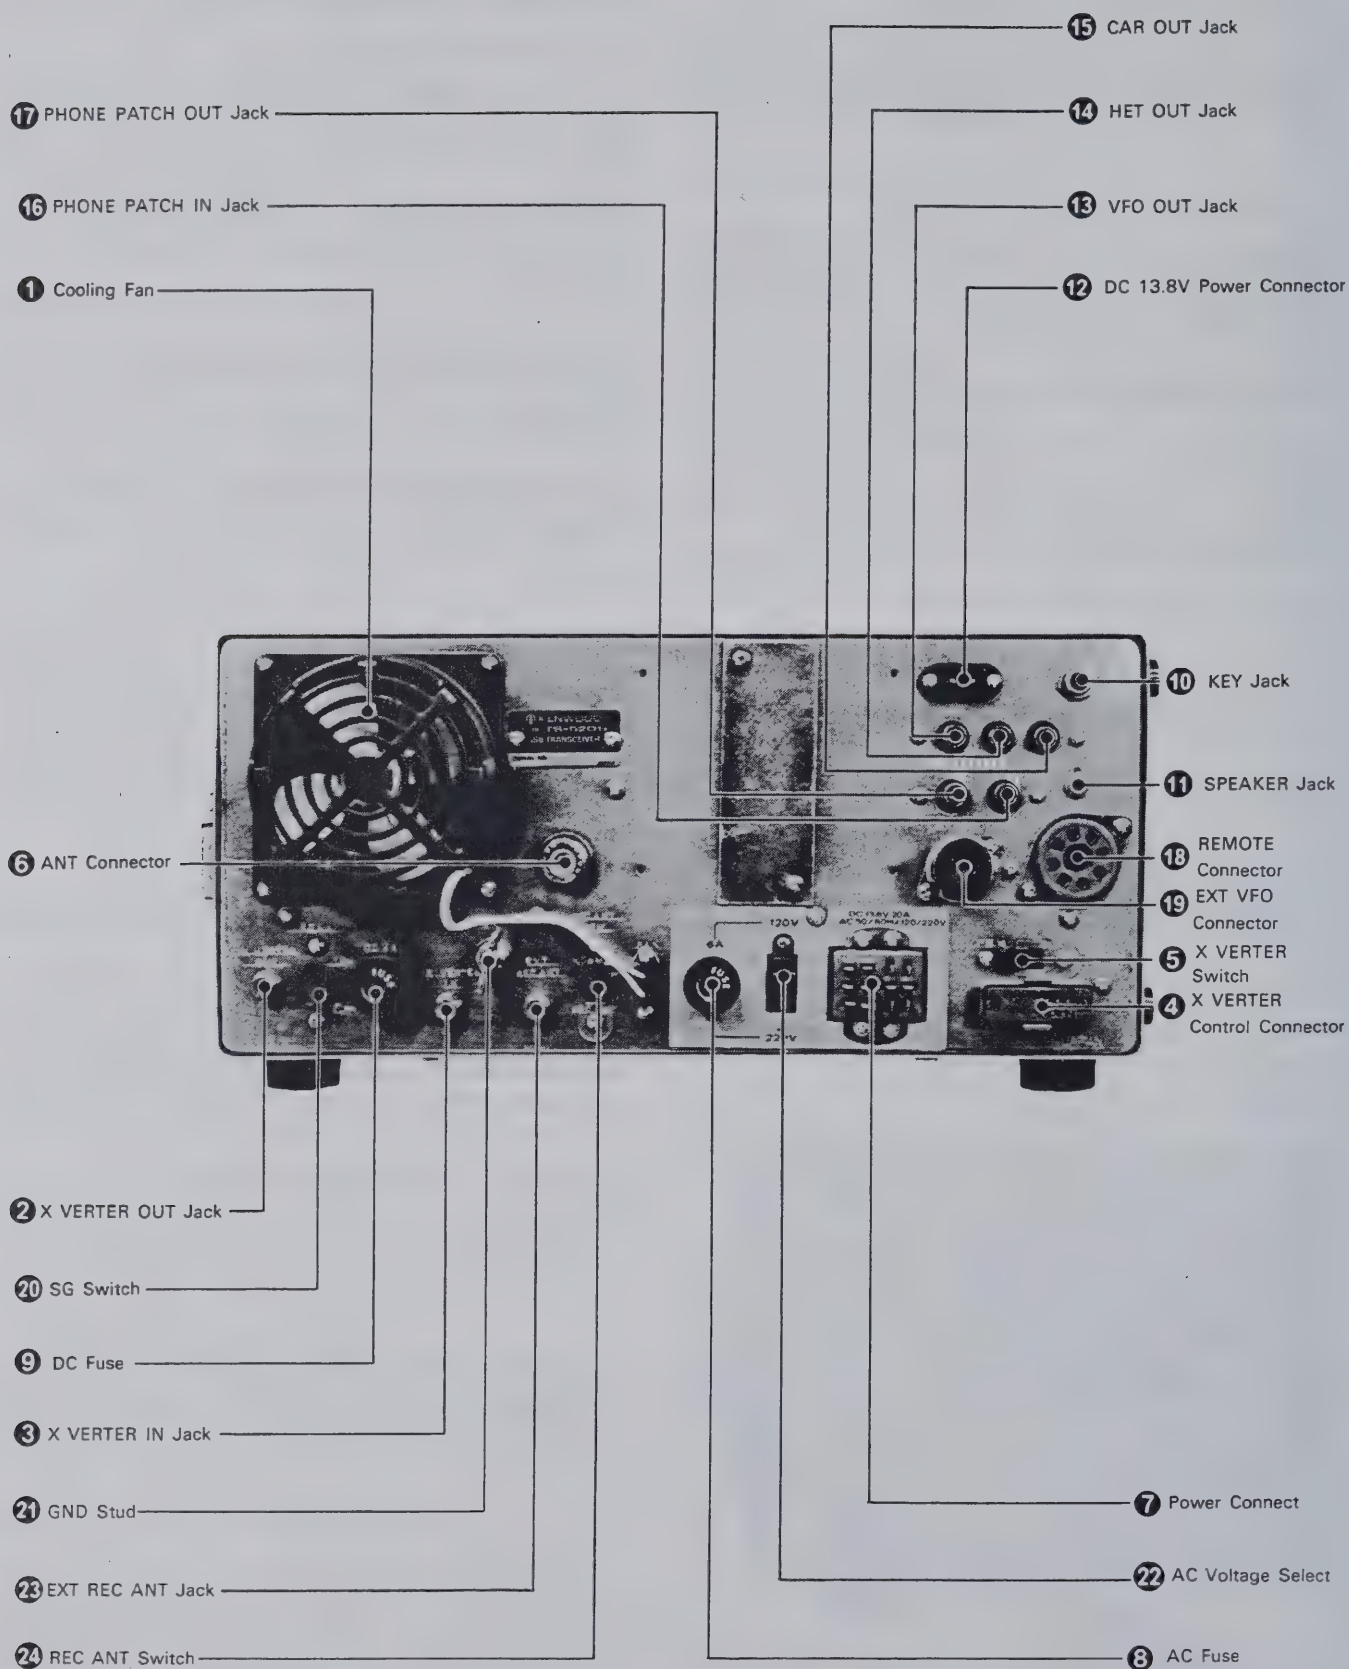

Fig. 7 Rear Panel Controls
3.3 REAR PANEL CONTROLS (See Figure 7)
■ COOLING FAN (① on Figure 7)
■ TRANSVERTER OUT JACK (② on Figure 7)
■ TRANSVERTER IN JACK (③ on Figure 7)
■ TRANSVERTER CONNECTOR (④ on Figure 7)
■ X VERTER SWITCH (⑤ on Figure 7)
■ ANTENNA CONNECTOR (⑥ on Figure 7)
■ POWER SUPPLY CONNECTOR (⑦ on Figure 7)
■ AC FUSE (⑧ on Figure 7)
■ DC FUSE (⑨ on Figure 7)
■ KEY JACK (⑩ on Figure 7)
■ SPEAKER JACK (⑪ on Figure 7)
■ 13.8V DC CONNECTOR (⑫ on Figure 7)
■ VFO OUT JACK (⑬ on Figure 7)
HET OUT JACK (⑭ on Figure 7)
CAR OUT JACK (⑮ on Figure 7)
■ PHONE PATCH IN JACK (⑯ on Figure 7)
■ PHONE PATCH OUT JACK (⑰ on Figure 7)
■ REMOTE CONNECTOR (⑱ on Figure 7)
■ EXTERNAL VFO CONNECTOR (19 on Figure 7)
■ SG SWITCH (20 on Figure 7)
■ GND (Ground) LUG (21 on Figure 7)
■ AC VOLTAGE SELECT SWITCH (22 on Figure 7)
■ EXTERNAL RECEIVER ANTENNA JACK (23 on Figure 7)
■ RECEIVER ANTENNA SWITCH (24 on Figure 7)